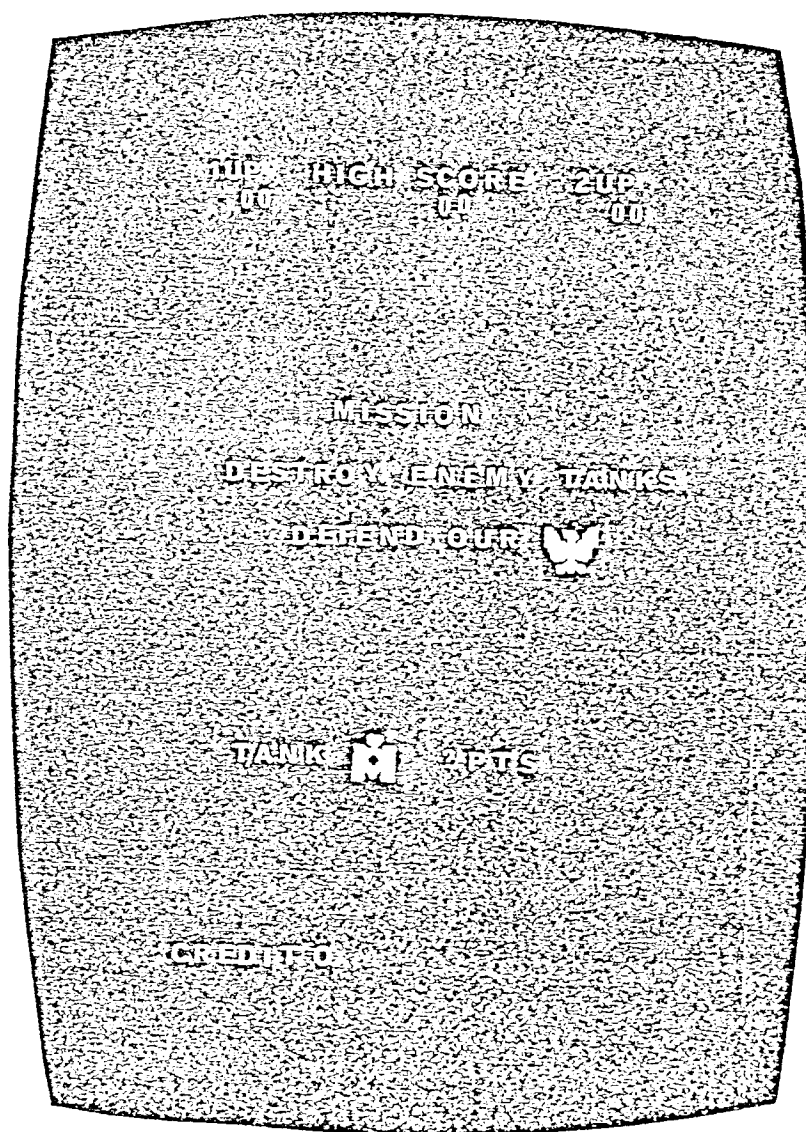

fig. 3-1 Attract Mode
- \* Figure 3-1 shows the screen immediately after the machine is plugged in. This screen is called Attract Mode.